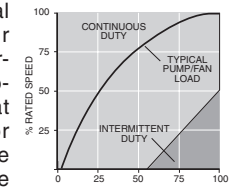

**FIGURE 11. Typical Standard AC Motors Adjustable Speed Operation**
- The motor thermal capacity must typically be derated as a function of the minimum, continuous operating speed in accord with Figure 11, due to the reduced ventilation provided by the integral motor fan.